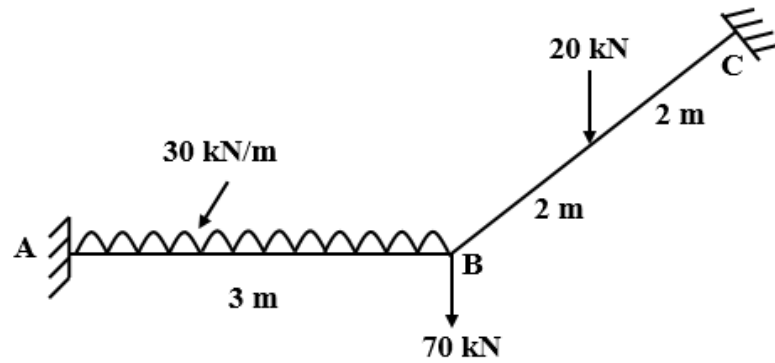

Figure: 3
- Q – 4** Calculate combined joint load vector for the grid shown in **Figure 3**. Consider $EI = 10^7$ GJ. [07]